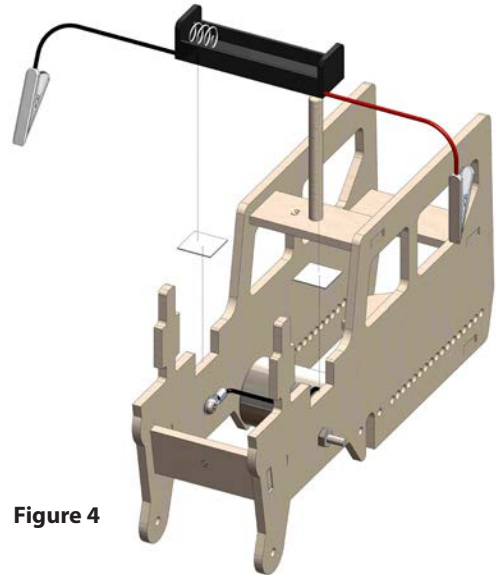

Figure 4
- Remove the backing from the foam tabs, and place the battery module into the rectangular indentation near the front of the tractor (Figure 4).